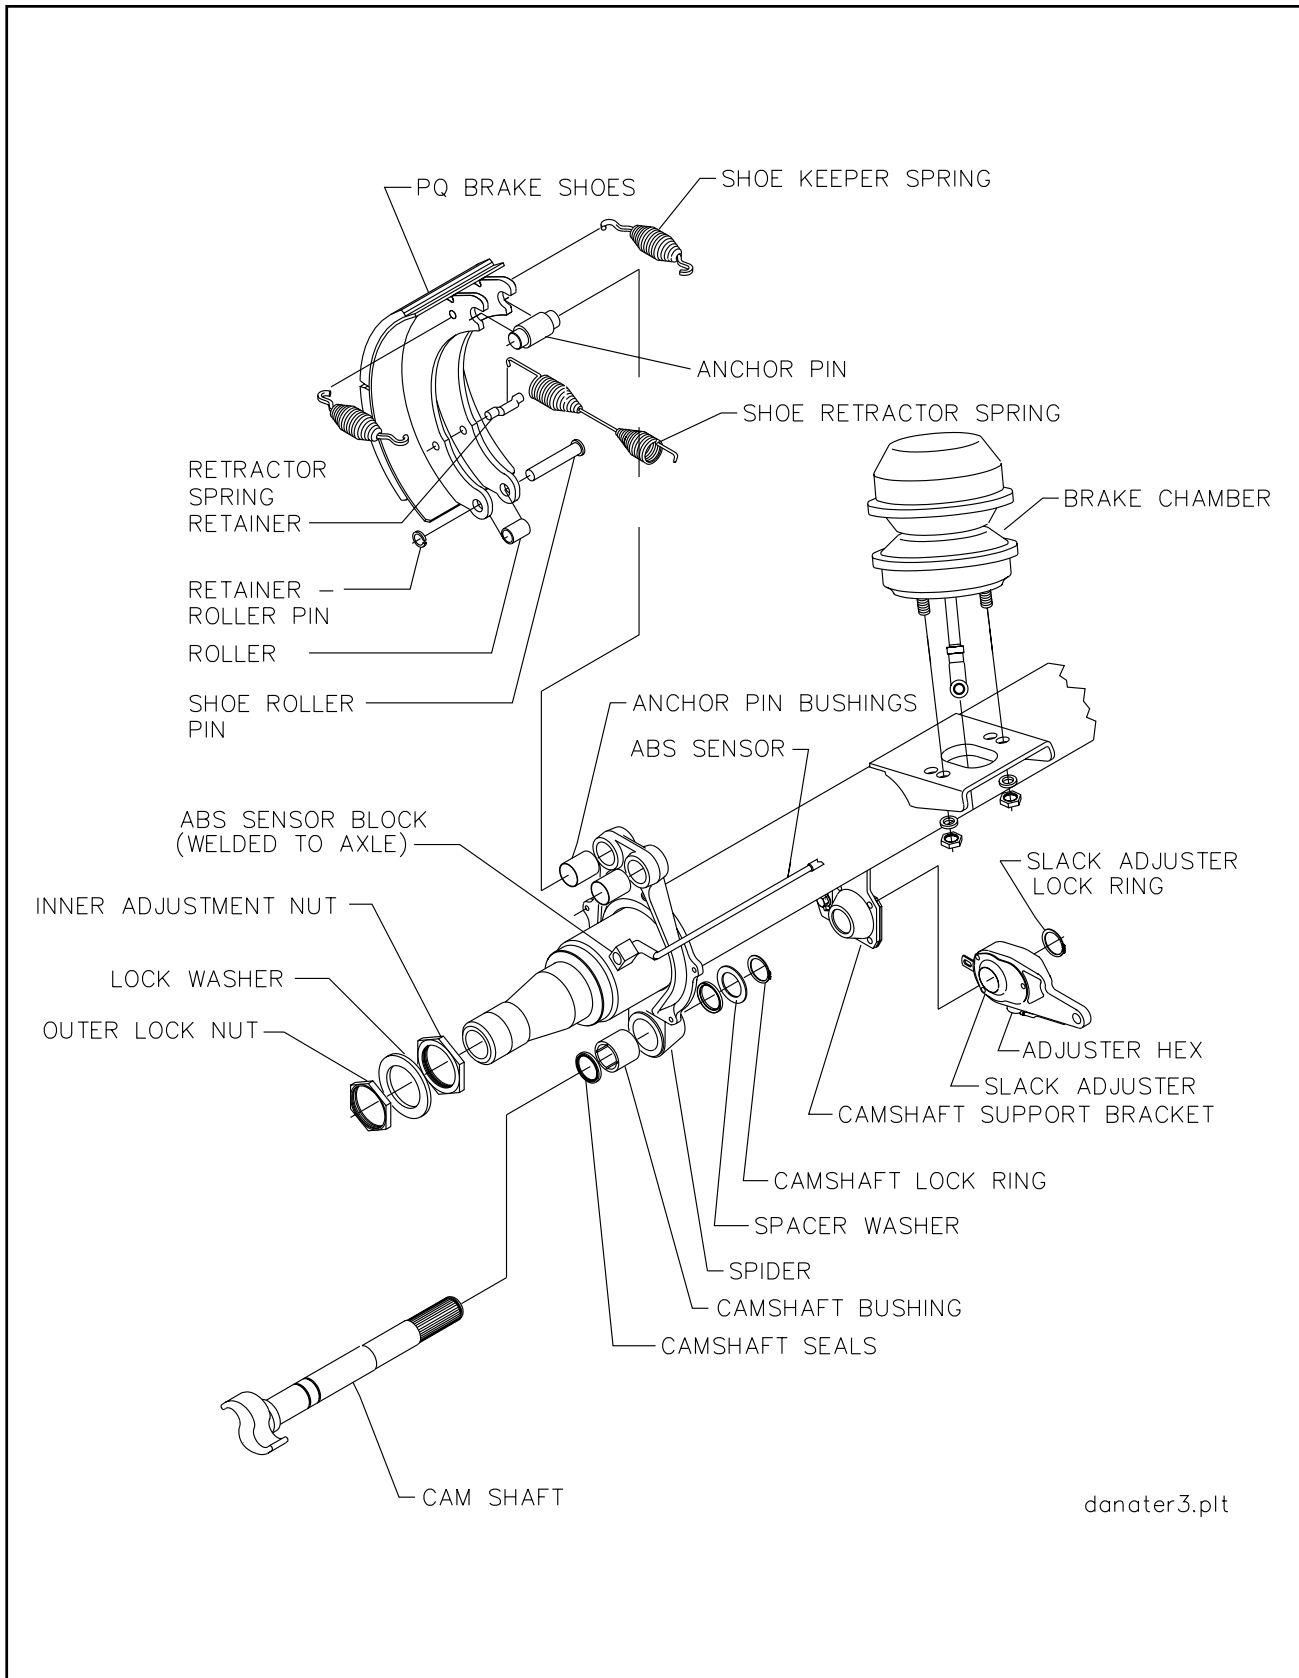

Figure 4-10 Axle and Brake Assembly
2. Remove dust cap from the rear of the spring brake chamber (See Figure 4-10).
- b. **Disassembly for 12-1/4" X 7-1/2" Brakes (See Figure 4-10)**
3. Remove drum assembly (**See Figure 4-10**).